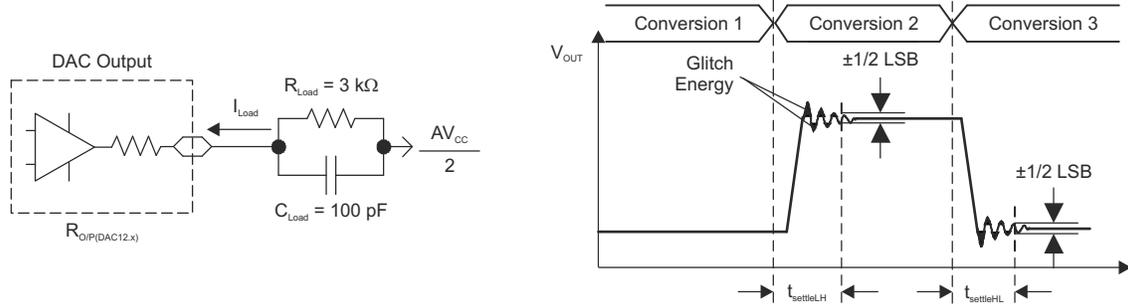
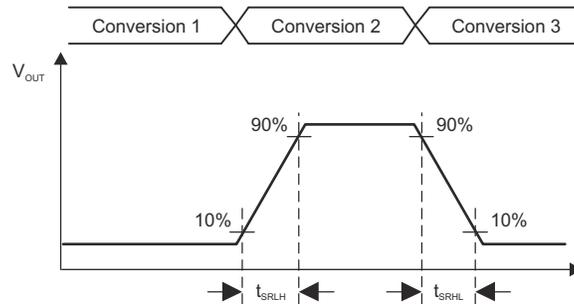

Figure 8-21. Settling Time and Glitch Energy Testing
Figure 8-22. Slew Rate Testing
V_{REF} = V_{CC}, DAC12IR = 1 (see Figure 8-21 and Figure 8-22), over recommended ranges of supply voltage and operating free-air temperature (unless otherwise noted)
| t _{ON} | DAC12 on time | DAC12_xDAT = 800h, Error _{V(O)} < ±0.5 LSB ⁽¹⁾ (see Figure 8-21) | 2.2 V, 3 V | 60 | 120 | 15 | 30 |
- (1) R_{Load} and C_{Load} connected to AV_{SS} (not AV_{CC}/2) in Figure 8-21.
- (2) Slew rate applies to output voltage steps ≥ 200 mV.